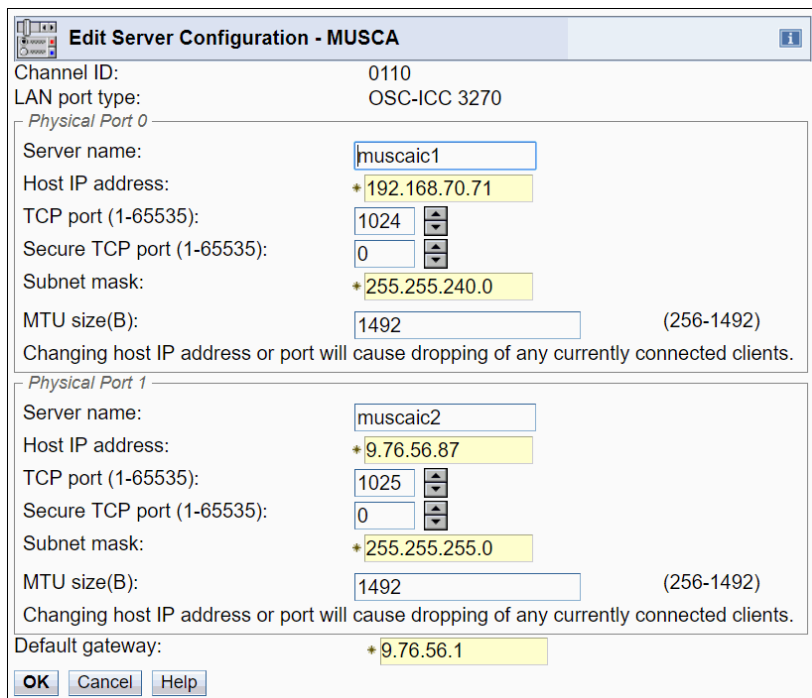

Figure 7-4 Edit Server Configuration panel
- The Edit Server Configuration panel opens. Enter the necessary values on this panel. Figure 7-4 shows our sample configuration. Click **OK** to save.